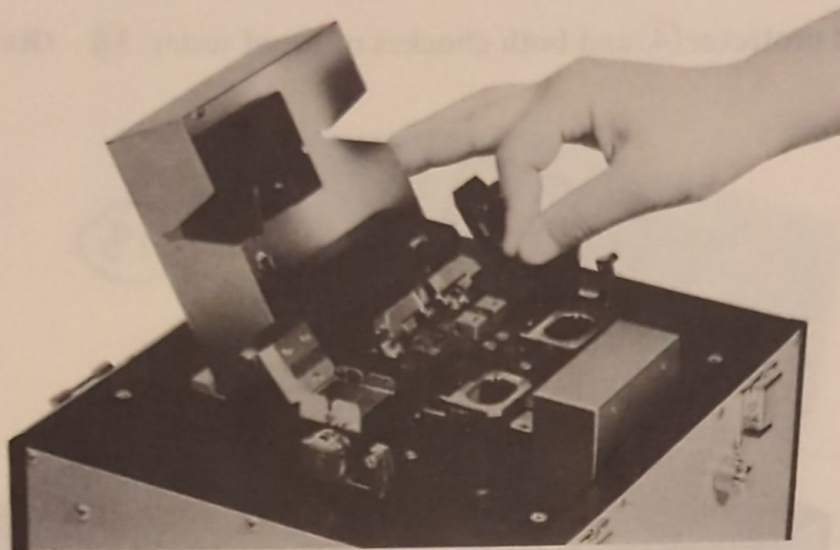

Fig. 16 Setting the Optical Fiber
- (5) Place the optical fiber on the holder ⑩. (Refer to Fig. 16)